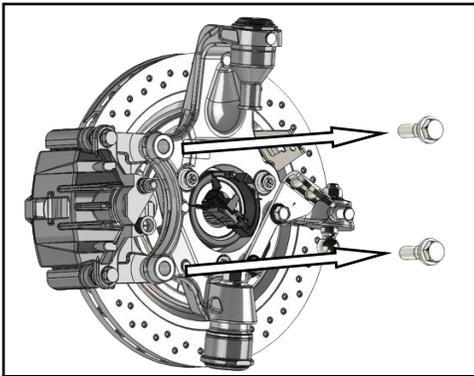

FIGURE 1. REMOVAL OF CALIPER MOUNTING HARDWARE
3. Remove the two bolts securing the brake caliper to the knuckle with a 21mm socket (Figure 1). Retain this hardware as it will be used to reinstall the caliper following installation of the new ES+ rotors.